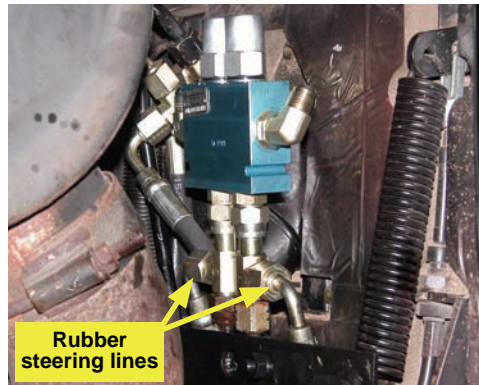

Figure 3a: Left and right steering hoses installed at the CBV
- a. Install the left and right steering hoses provided in your ED-C8900 kit to the branches of the run-tees at the counterbalance valve (Figure 3a).